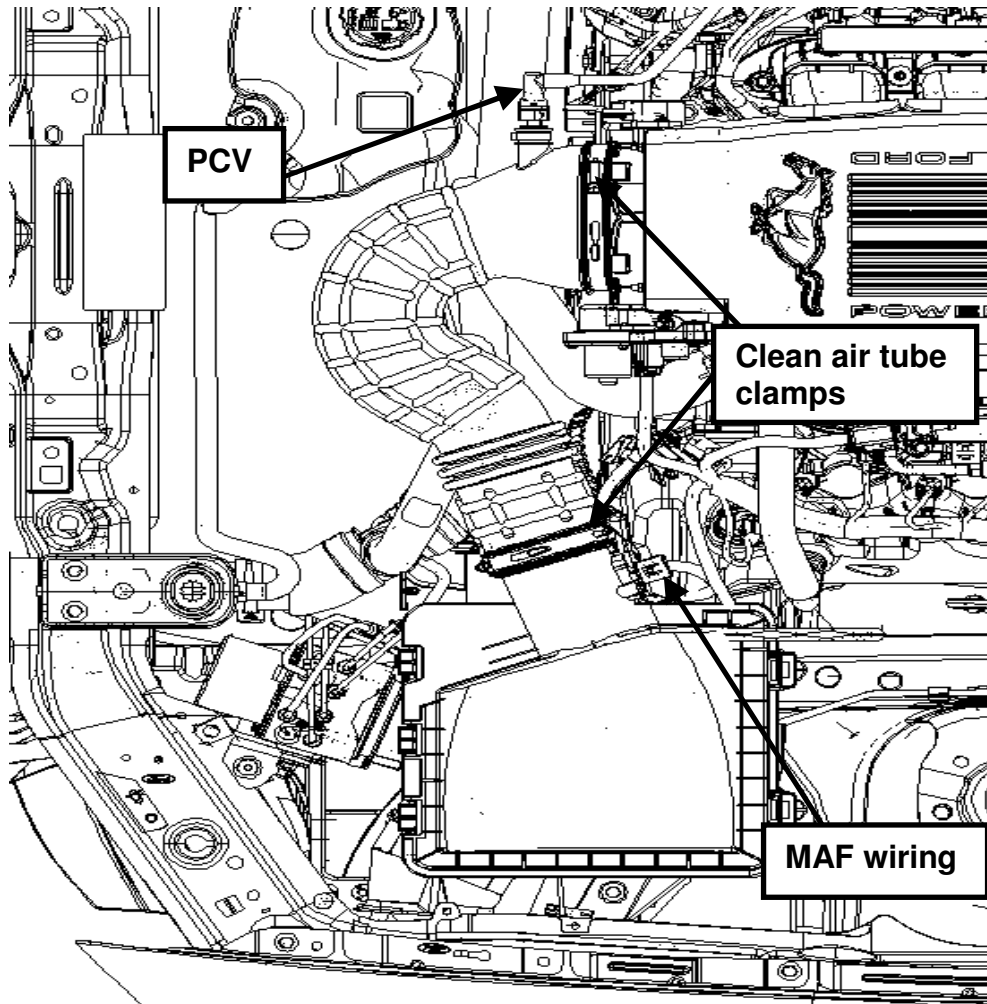

Fig. 1
**STEP 3:** Disconnect the MAF wiring from the airbox. Loosen the clean air tube clamps and disconnect the clean air tube from the airbox and throttle body (See Fig. 1).
**STEP 4:** Disconnect PCV tube and remove clean air tube (See Fig. 1).